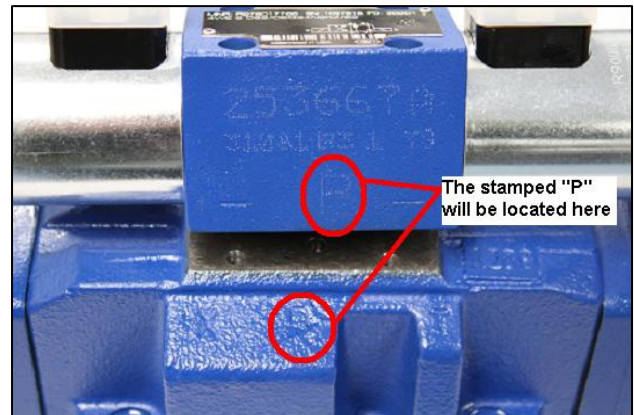

FIGURE 2
3. Before inserting the screws, be sure that the "P" (reference **Figure 2**) stamped on the top and bottom portion of the valve are aligned to ensure the correct operation.